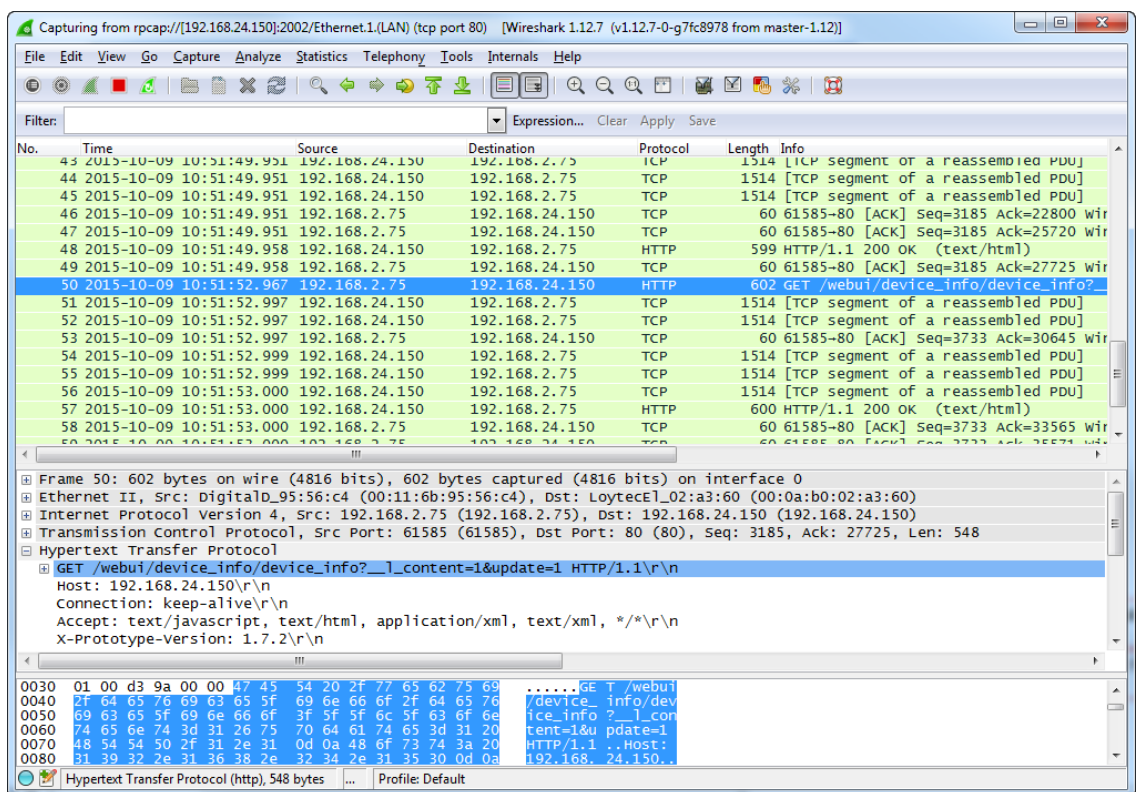

Figure 161: Example Ethernet remote capture in progress.
3. Wireshark will attempt to establish a connection to the device and, if successful, start displaying packets. An example capture is shown in Figure 161.